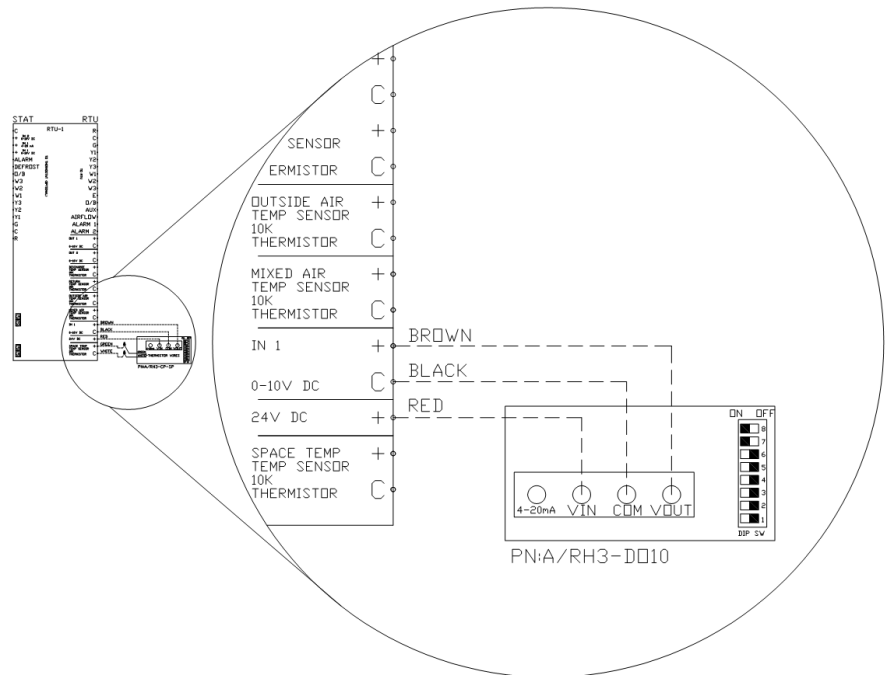

Figure 18. RTULink - Duct Mount RH
The sensor has a bank of eight dip switches that control the range of the output voltage of the humidity sensor. Switches seven (7) and eight (8) need to be turned ON and the rest should remain OFF. These dip switches can be seen in the sensor detail in Figure 18.
Figure 18 is a wiring diagram of a duct mounted humidity sensor that is wired to the "RTU" Input 1 on the RTULink.
Once the sensor is wired to an input, enter the configuration menu via the onboard HMI and configure the corresponding input for the humidity sensor that was installed. In the example in Figure 18, the sensor was installed in the return duct, so "RTU IN 1" would be configured for "RA RH".